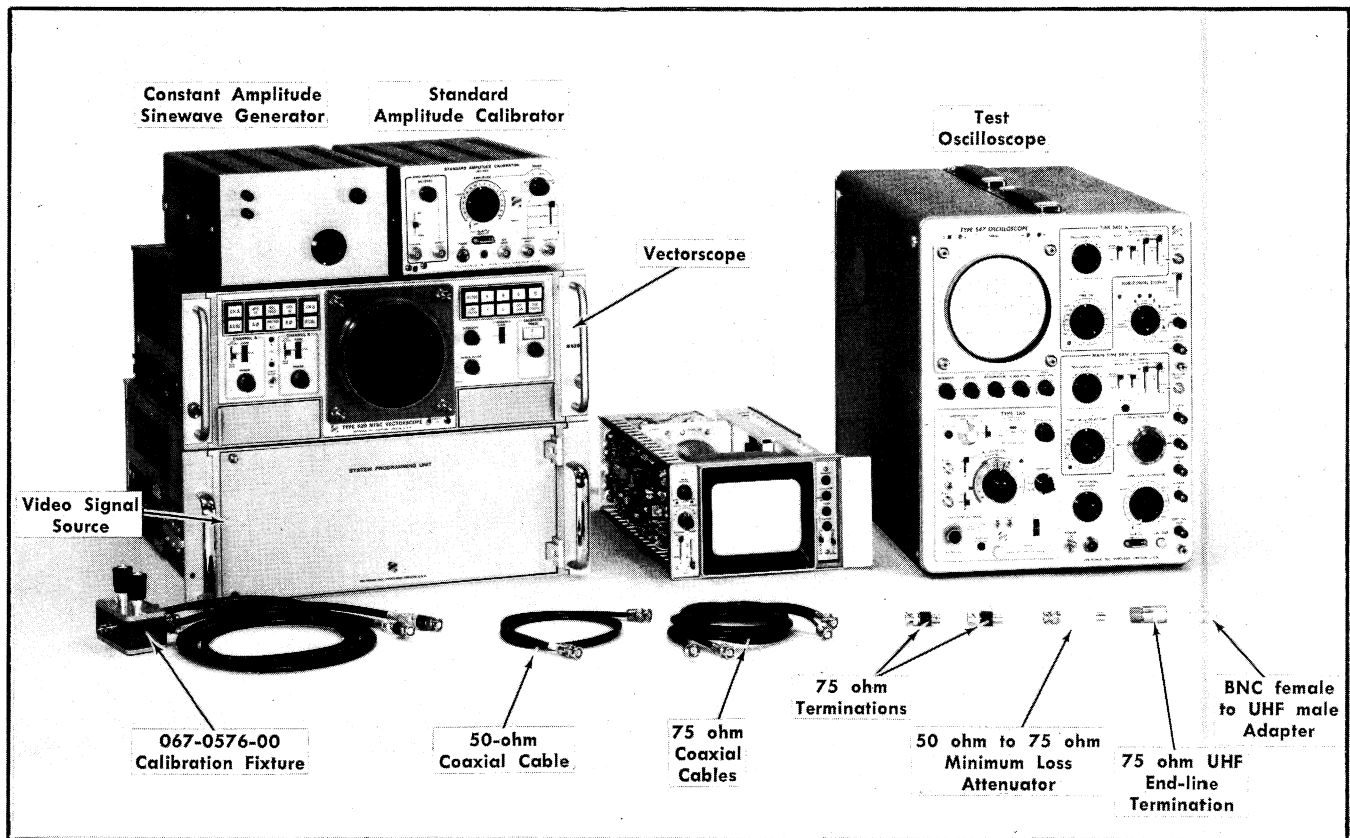

Fig. 5-6. Initial calibration test equipment setup for steps 11 through 19.
a. Test equipment setup is shown in Fig. 5-6.